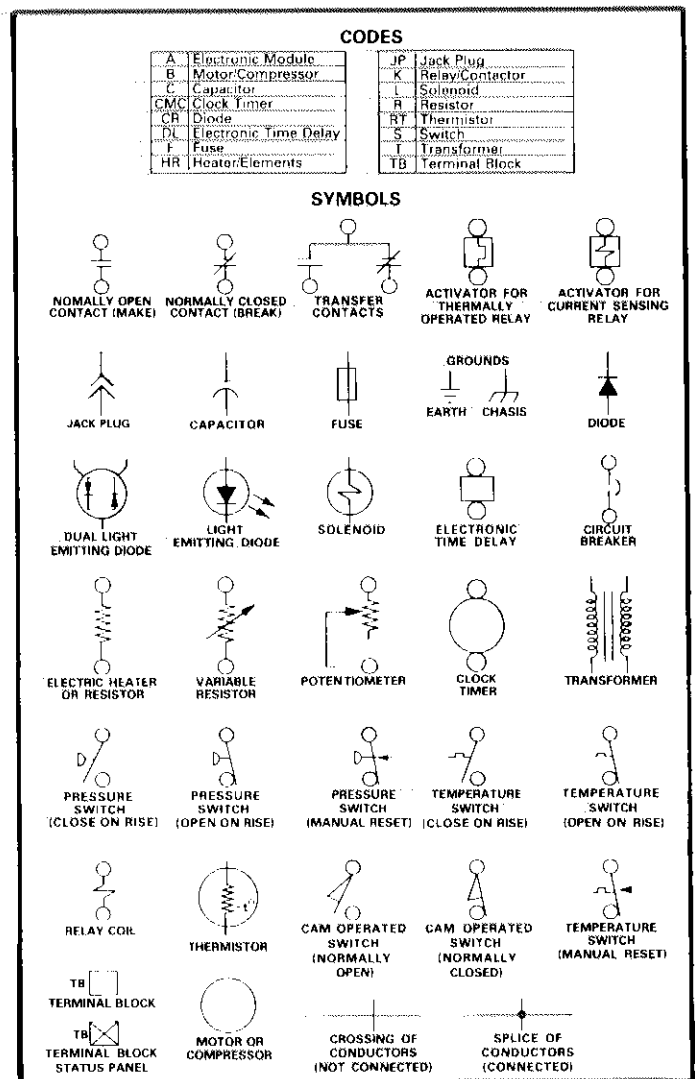

FIGURE 31
- 2 - The graphic symbols for components and code lettering conforms to the "IEEE Standard and American National Standard" of graphic symbols for electrical diagrams. All symbols and code lettering used are approved by the International Electrotechnical Commission (IEC). Refer to Figure 31 for code and symbol identification.